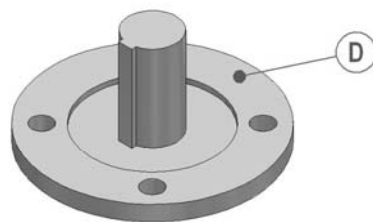

Fig. 3. Valve Mounting Flange
Important Note for Fig. 3:
D: It is recommended that flanges be sealed on assembly with silicon sealant. The face marked 'D' on Fig 3 shows where sealant can be applied to the valve mounting flange.
- 2) Align gearbox baseplate flange square and parallel to valve flange. As shown in Fig. 3, It is recommended that flanges be sealed on assembly with silicon sealant. Grease the output sleeve and the valve shaft.